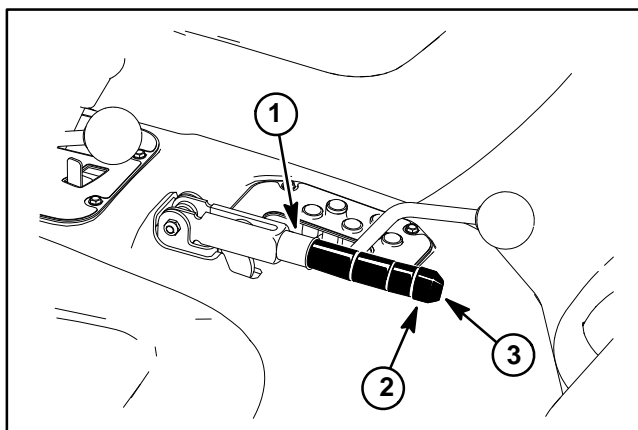

Figure 14
2. Remove brake lever handle from parking brake lever and loosen set screw on parking brake lever knob (Fig. 14). Turn knob on parking brake lever counter-clockwise all the way to loosen brake cable adjustment.